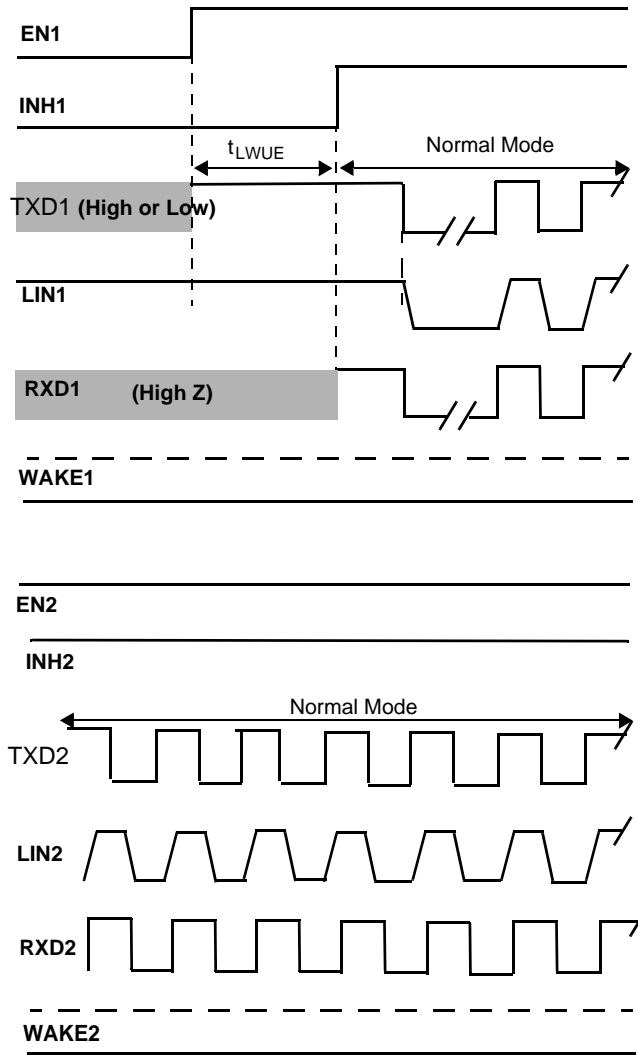

Figure 14. LIN Module 1 EN1 Pin Wake-up with TXD1 High & LIN Module 2 in Normal Mode
26. See Figures 14, 18, 22, and 23
- 29. See Figures 14, 15, 16, and 21